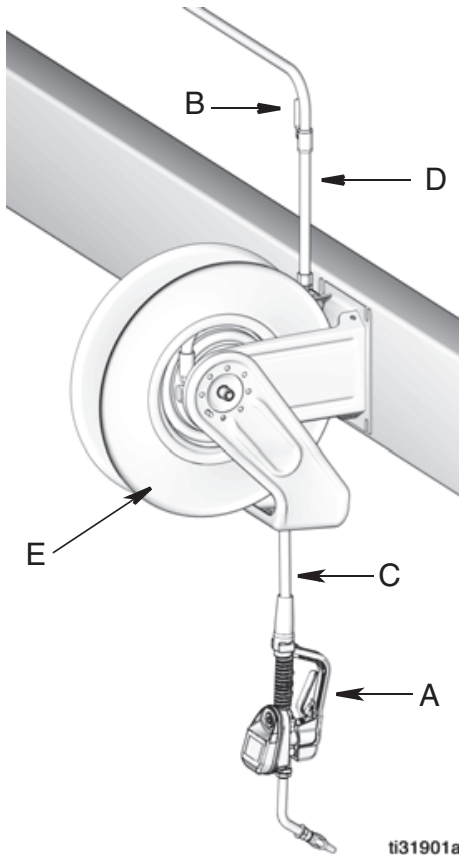

FIG. 4
The typical installation shown in FIG. 4 is only a guide. It is not a complete system design. Contact your Graco distributor for assistance in designing a system to suit your needs.
2. Close fluid shut-off valve (B, FIG. 4, page 9).
1. Close the fluid shut-off valve (B, FIG. 4, page 9) at each dispense position.
4. Slowly open the fluid shut-off valve (B) at the dispense position. Flush a sufficient amount of oil to ensure that the entire system is clean; then close the valve.